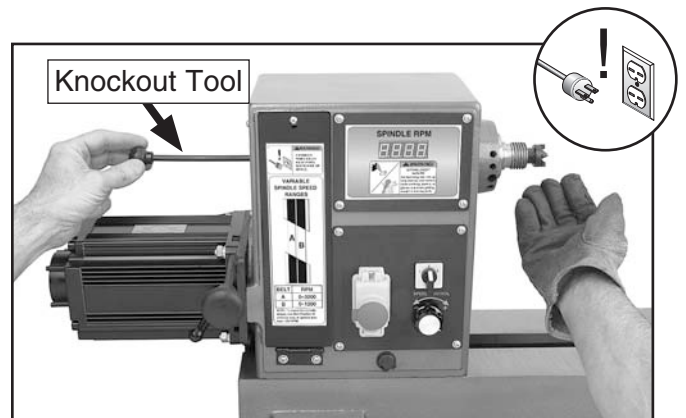

Figure 23. Removing the headstock center.
3. Insert the knockout tool through the outbound end of the spindle and firmly tap the back of the center, catching it as it falls, as shown in **Figure 23**.